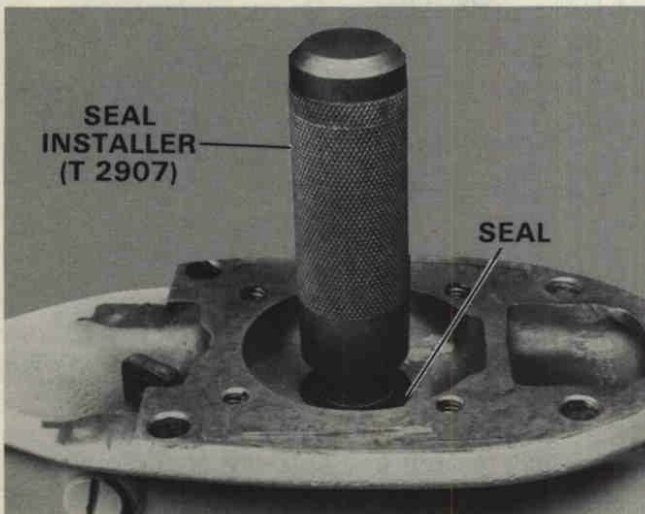

Figure 67. Installing Driveshaft Seal.
- B. Position seal and tool in bore of upper gear housing as shown in Figure 67 and press seal in until it contacts bottom of bore.